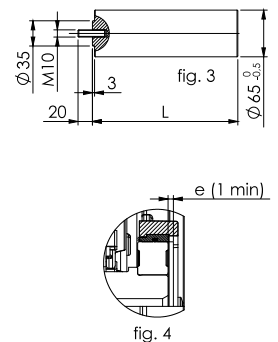

fig. 4
- 9) Remove the tie rod **C**, the disk **A**, and the nut **B**, making sure that there is a certain amount of play **e** between the bearing and the housing shoulder (fig. 4)